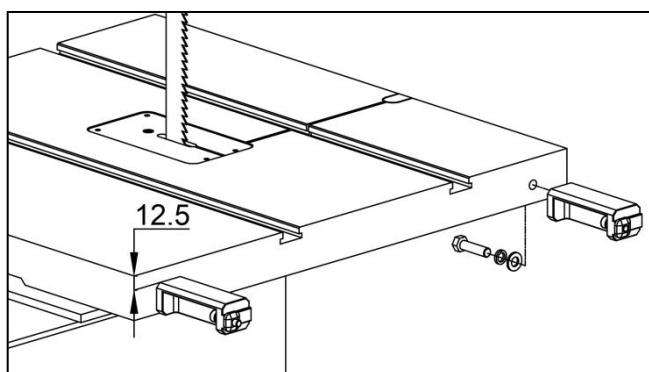

Fig. 6
1. As shown in Fig. 6, install the Front Rail Mounting Block Assemblies (F).